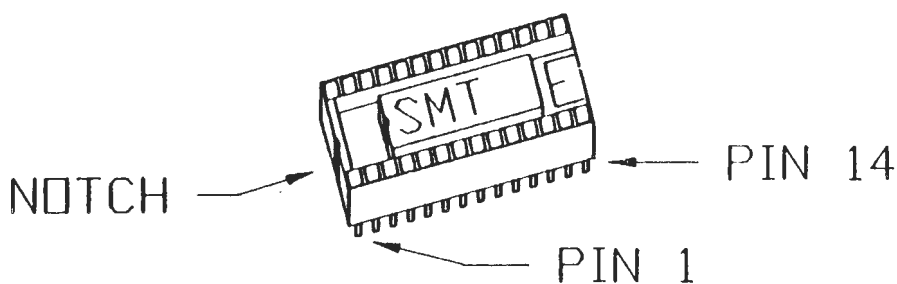

Figure 5
- 7) Look at the No-Slot Clock. At one end of the No-Slot Clock you will notice an indentation. This is the pin 1 end of the No-Slot Clock. At the other end of the No-Slot Clock you will notice a big "E". This is the pin 14 end of the No-Slot Clock. DO NOT MIX UP PIN 1 WITH PIN 14. See figure 5 for a drawing of the No-Slot Clock pin 1 position.